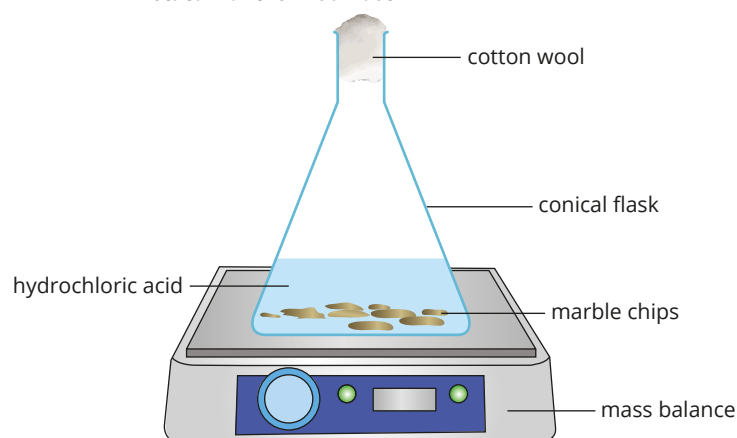

FIGURE 1.1.7 Measuring the rate of reaction between marble chips and hydrochloric acid
- 6 Figure 1.1.7 shows the apparatus used to measure the rate of reaction between marble chips and hydrochloric acid.